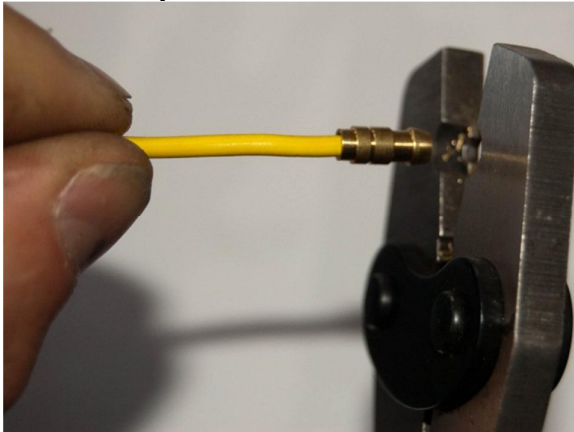

Figure 5
2. Inset the bullet into the crimping tool (Figure 4) as shown in figure 5 and 6. Compress the handles of the tool until they automatically release. This completes the conductor crimp. See figure 7.